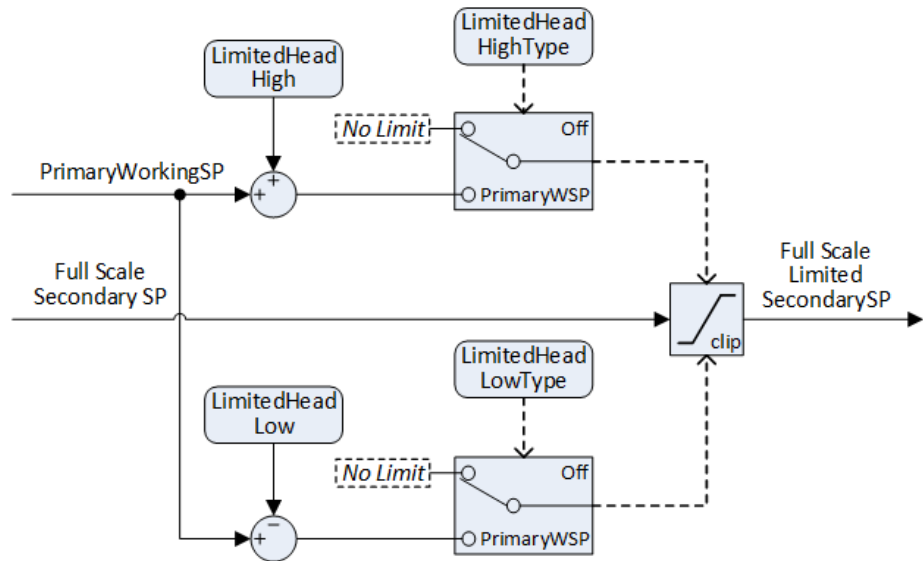

Figure 108 Limited Head function available for Full Scale configuration.
- The Full Scale Setpoint can be limited with upper and/or lower bounds which are relative to the Primary Working Setpoint, through the Limited Head Function – see Figure 108.